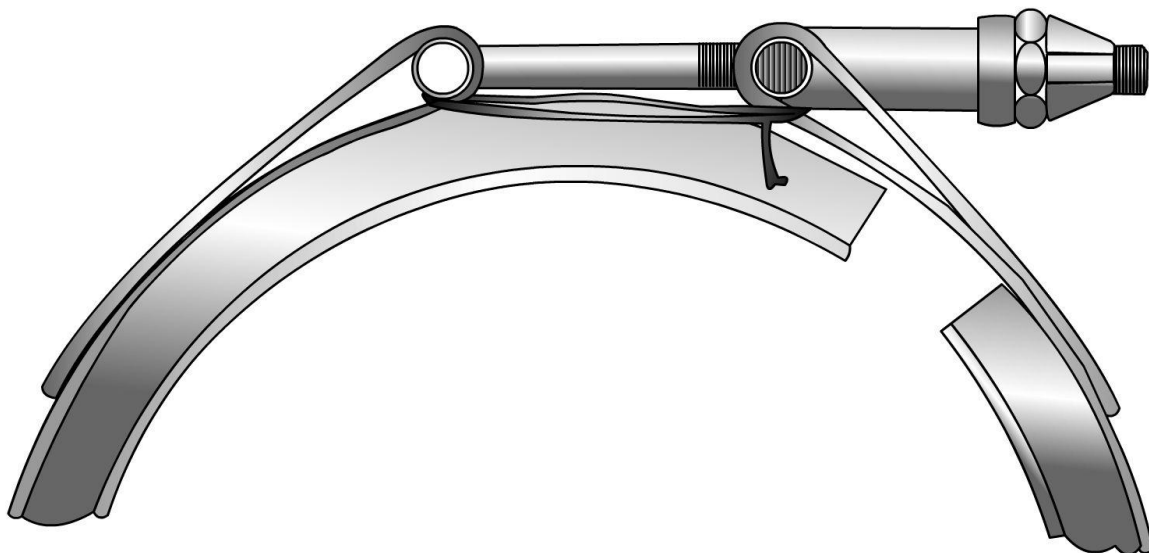

Figure 6-29 — Safelying a V-band coupling.
8. Safety wire the V-band coupling, as shown in *Figure 6-29*, as an extra measure of security in the event of T-bolt failure. The safety wire will be installed through the band loops that retain the T-bolt and the trunnion or quick coupler. A minimum of two turns of the wire is required. Most V-band connectors will use a T-bolt with some type of self-locking nut.